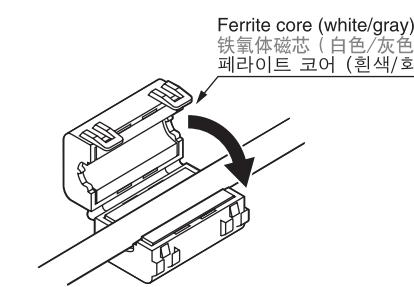

Figure 15 / 图 15 / 그림 15
2. For RCA pin cable (front, rear and subwoofer output) (Figure 15).
3. For Ce-NET cable (Figure 15).